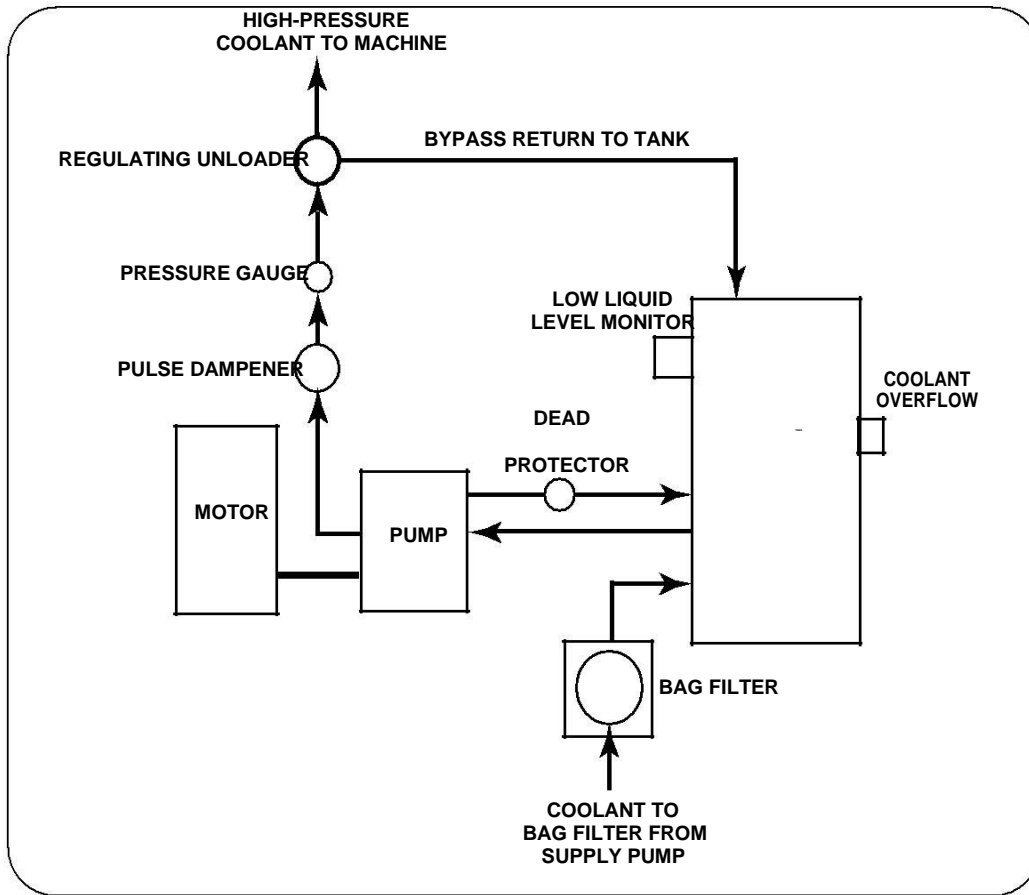

Figure 1. System Block Diagram
The Jorgensen Conveyors High-Pressure Unit is shown in block diagram form in Figure 1. Views of the equipment are shown in Drawing 41-5914 (at the end of this manual).
1. Upon initial startup, back off the regulating unloader (Figures 1 and 3) to the lowest pressure (counter clockwise).